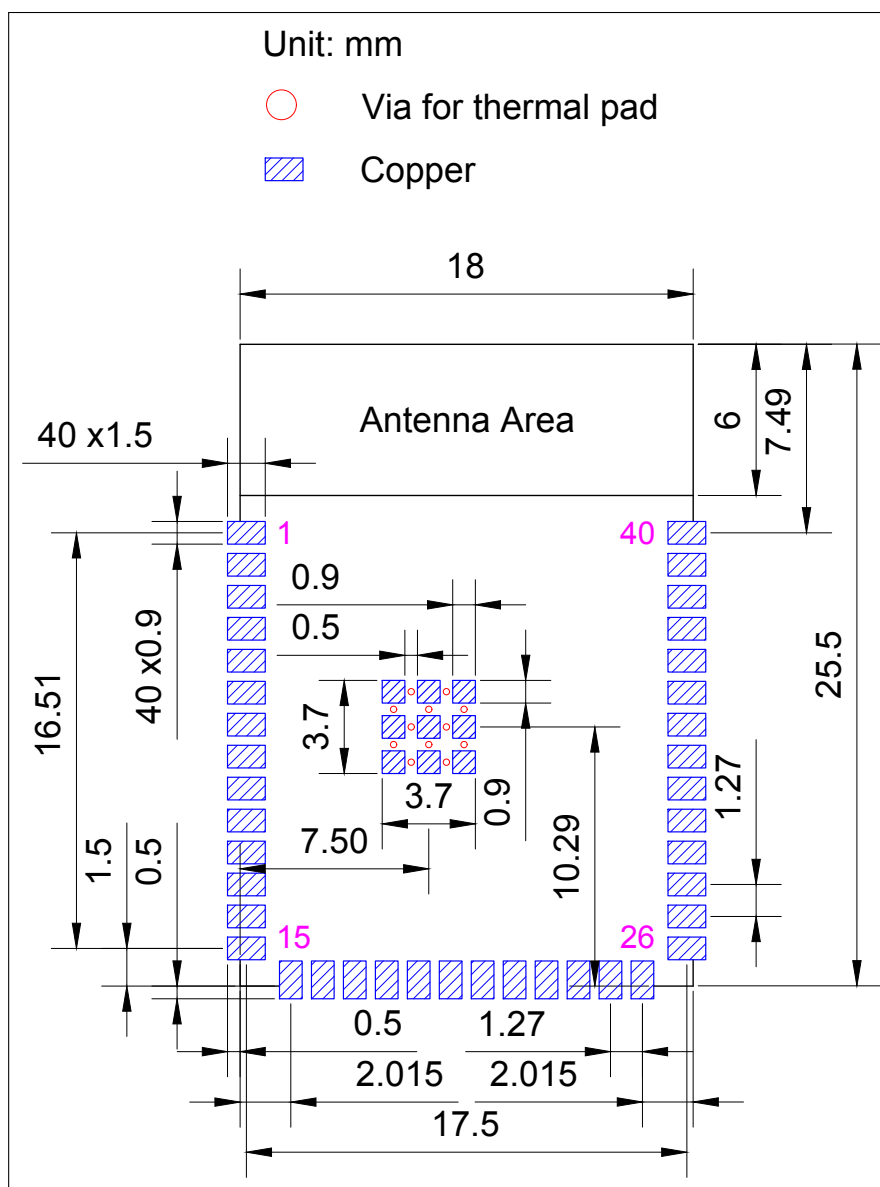
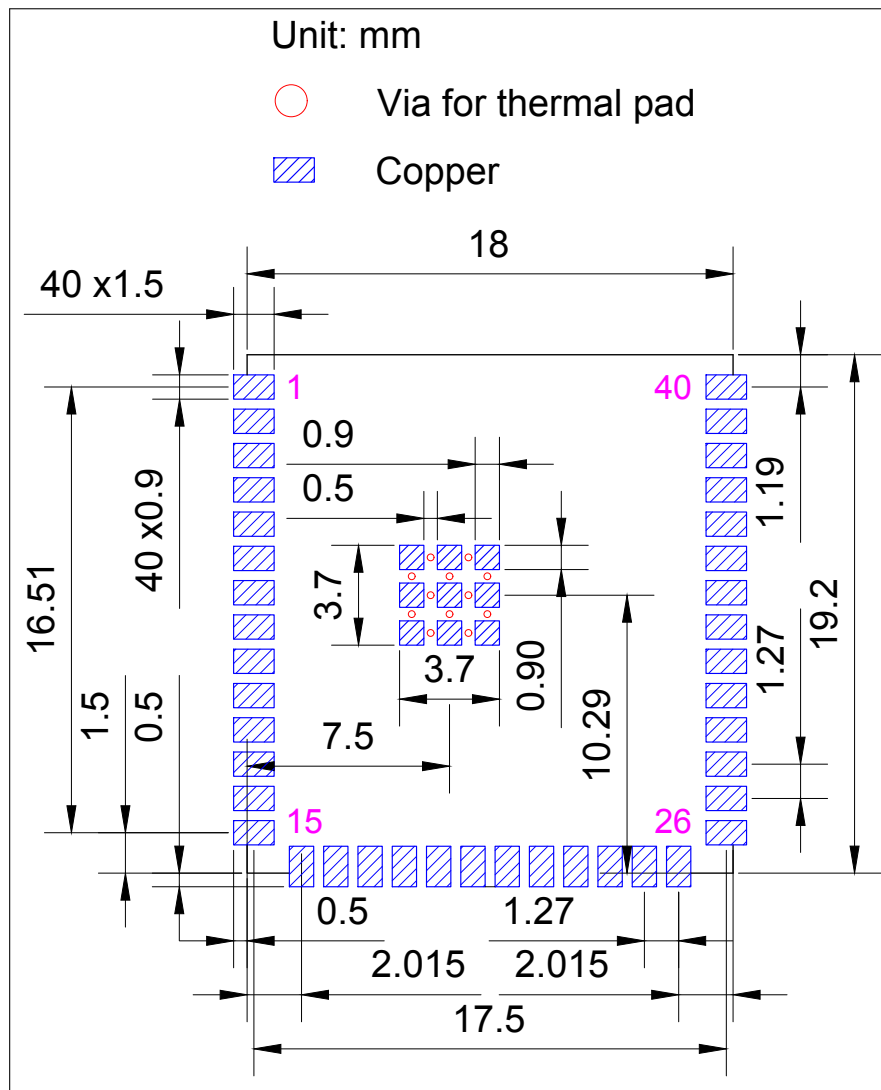

Figure 10: ESP32-S3-WROOM-1 Recommended PCB Land Pattern
Figure 11: ESP32-S3-WROOM-1U Recommended PCB Land Pattern
- Figures for recommended PCB land patterns with all the dimensions needed for PCB design. See Figure 10 *ESP32-S3-WROOM-1 Recommended PCB Land Pattern* and Figure 11 *ESP32-S3-WROOM-1U Recommended PCB Land Pattern*.
- Source files of recommended PCB land patterns to measure dimensions not covered in Figure 10 and Figure 11. You can view the source files for ESP32-S3-WROOM-1 and ESP32-S3-WROOM-1U with Autodesk Viewer.